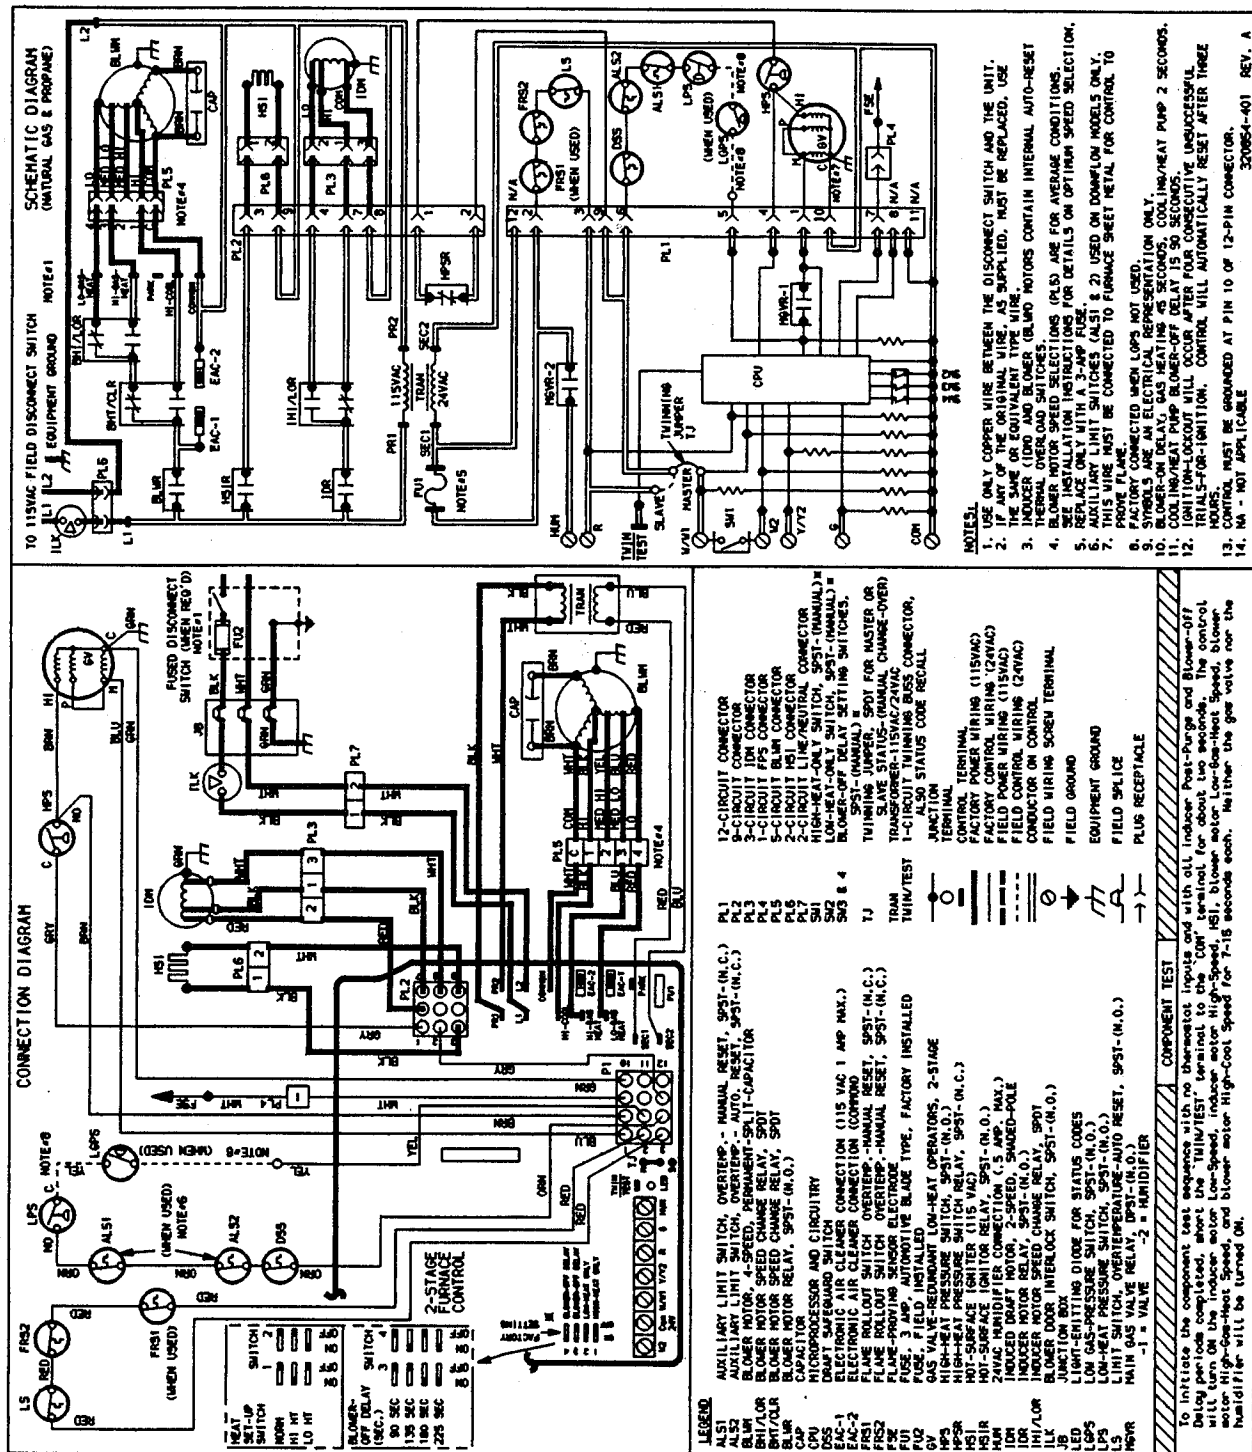

Fig. 14—Wiring Schematic
Fig. 12.) For single-stage thermostats the control will determine, based on length of previous heating cycles, when to operate in low and high heat for optimum comfort. Setup Switch-2 (SW-2) must be in the factory-shipped OFF position. See Fig. 14 and Tables 10 and 11 for setup switch information.
Using the schematic diagram, Fig. 14, follow the sequence of operation through the different modes. Read and follow the wiring diagram very carefully.
**NOTE:** With the high heat only switch SW1 (see Fig. 14) OFF, the low heat only switch SW2 selects either the low heat only operation mode when ON, (see 2. below) or the adaptive heating mode when OFF in response to a "call for heat." When the high heat only switch SW1 is ON, it will always cause high gas heat operation when the R to W circuit is closed, regardless of the setting of the low heat only switch SW2.